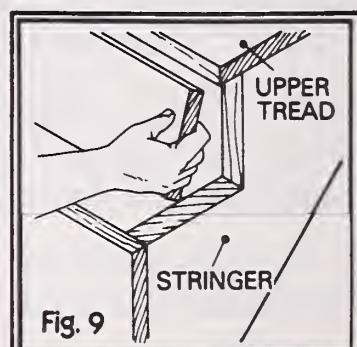
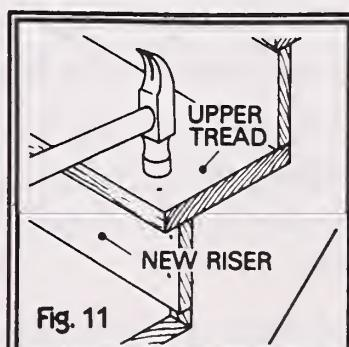
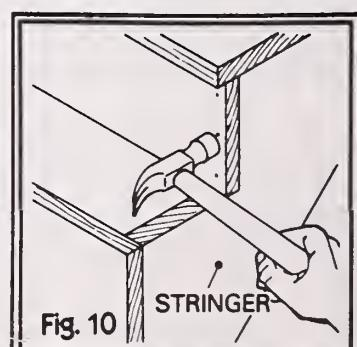

Fig. 9
Fig. 11
Fig. 10
10. Place the riser first by putting it in its location under the nosing of the upper tread and against the cutout of the stringers (fig. 9). Now nail the riser into place by face-nailing it to the stringers (fig. 10). Then nail the upper tread down on the riser (fig. 11). Space the nails the same as the old nail spacing, or approximately 6 inches apart.